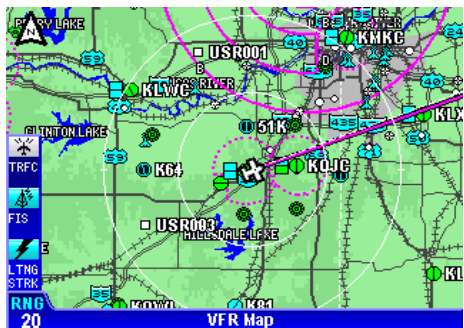

Figure 1-97
4. Press the **ACTIVATE** Softkey and the selected Direct-To route will be displayed on the Map as shown in Figure 1-97.